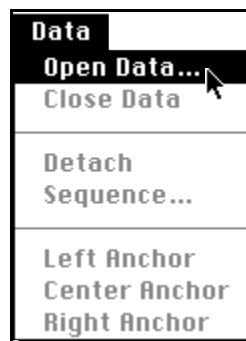

Figure 2-12 Data Menu - Open Data Command
3. Choose **Open Data** from the **Data** menu. See Figure 2-12.